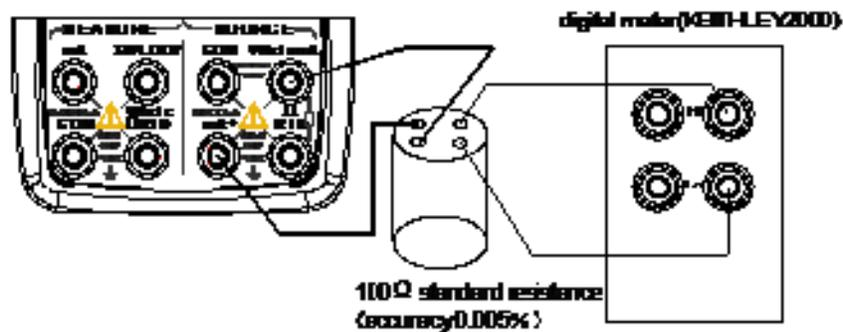

Figure 20 Adjusting current source
Step 1: Using the function selector switch SOURCE (FUNC) , select DC current function. Connect the lead cables for measurement to the standard digital meter as shown in Figure 20.